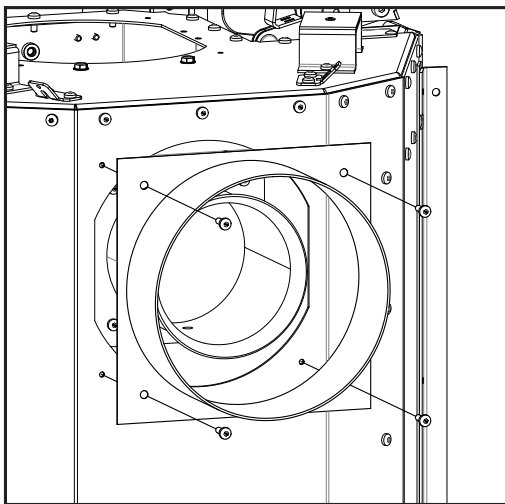

Figure 72: Vent Adapter Attachment
11. Attach the vent adapter over top of the exhaust spigot (see Figure 72).